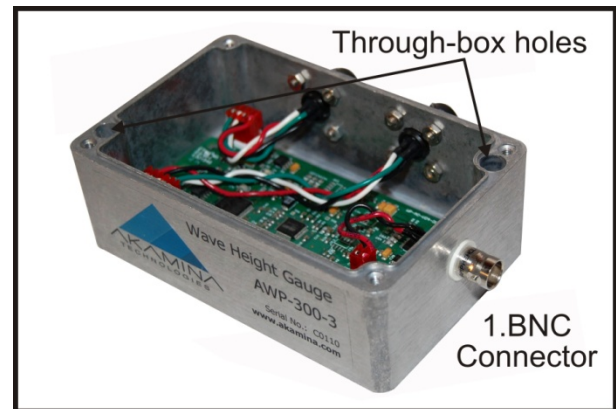

Figure 2-1 Enclosure and BNC Connector
1. A BNC connector (Figure 2-1) is used to attach the wave probe head coax cable to the AWP-300 electronics.